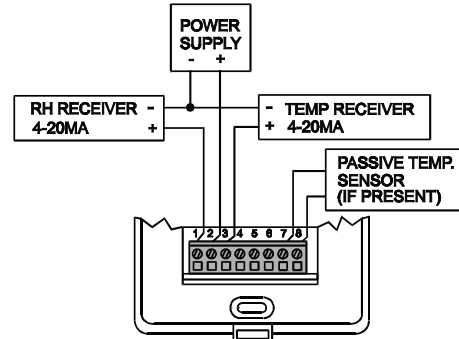

Figure 4
**Current Output Selected:** Wire as shown in Figure 4. Current outputs must be powered with 10-35 VDC. If the RH output is not required, wire the negative terminal of the power supply to terminal 1 of the transmitter. All units come with 4-20 mA RH and Temperature outputs. If the 4-20 mA temperature output is not used it may be left disconnected. If the unit has a passive temperature sensor, wire to terminals 7 and 8.